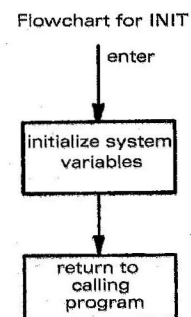

Figure 5
4. INIT - The initialization routine (See Figure 5.)